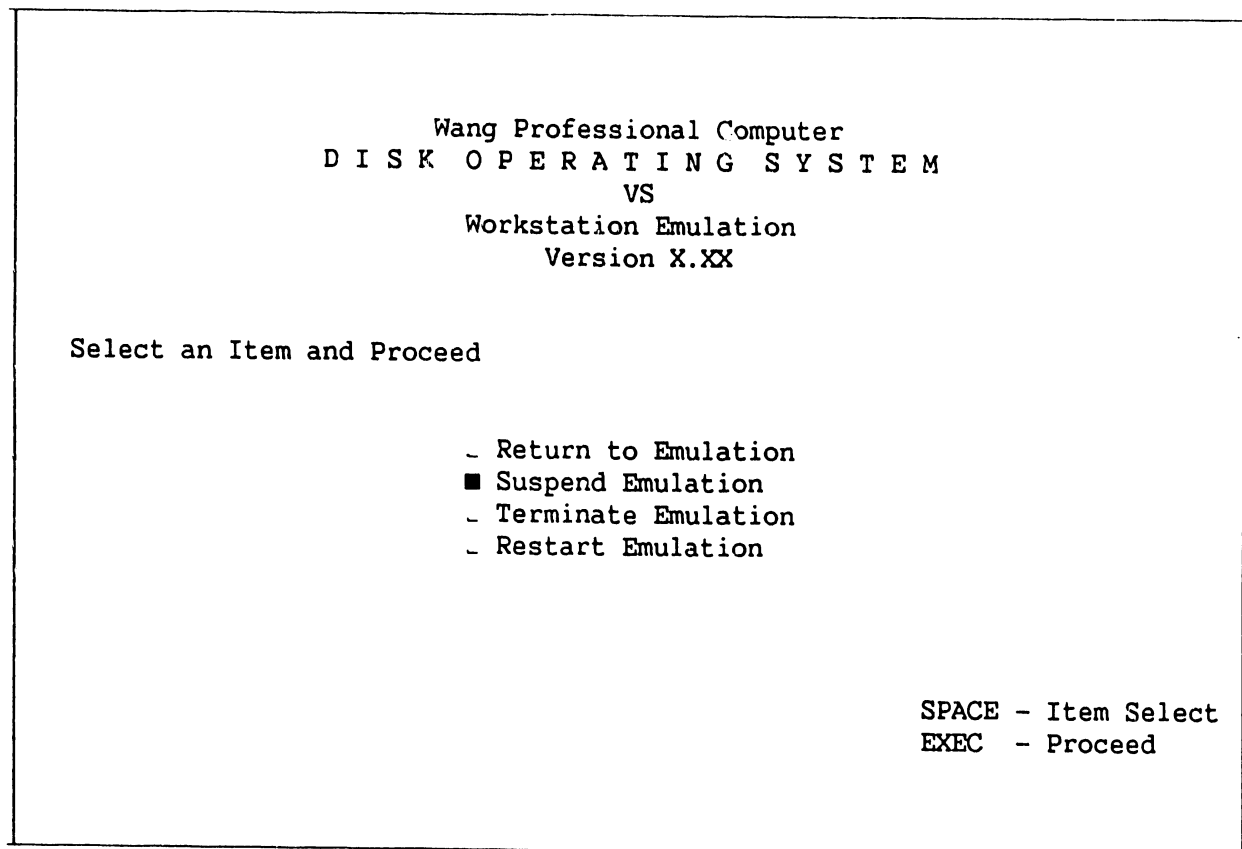

Figure 7-2. Workstation Emulation Menu
2. The Workstation Emulation screen appears. Refer to figure 7-2 below.